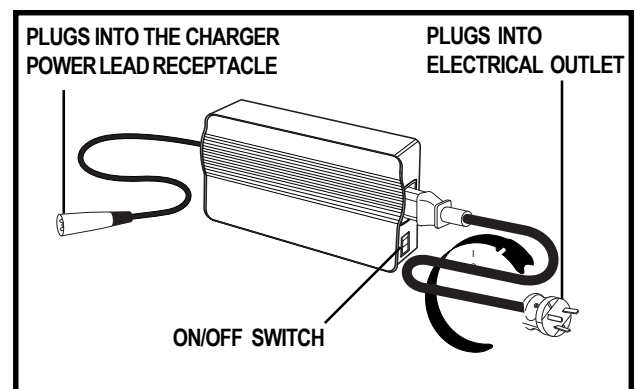

Figure 8B. Off-board Charger
6. Extend the charger power lead and plug it into the electrical outlet. See figure 8B.
7. Turn the charger on. See figure 8B. It is recommended that you charge your batteries for 8 to 14 hours.